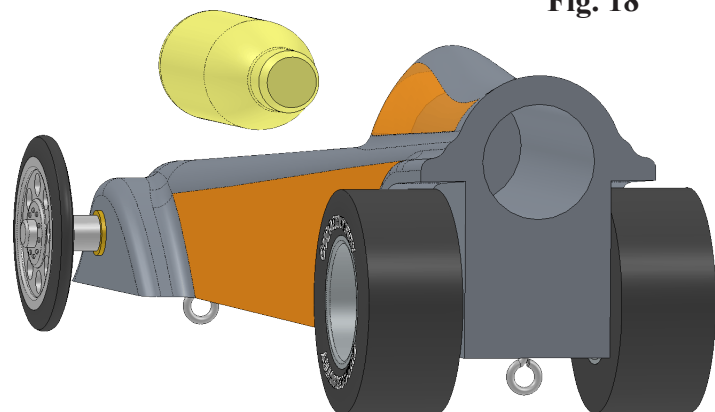

Fig. 20
Step 2. Rotate view to view **bottom of cartridge hole in Body**, hold down middle mouse button (wheel) and drag to rotate view, Fig. 20.
Step 4. Click **Browse** in the Property Manager, select your **CARTRIDGE** file and place approximately where the cartridge is positioned in Fig. 20.